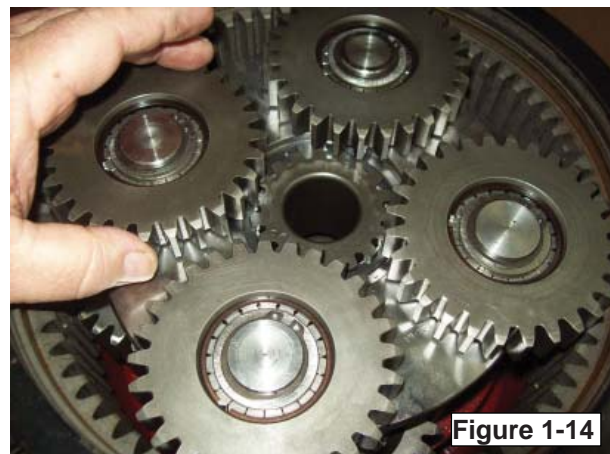

Figure 1-14
21. Place outer gear set into the hub (FIGURE 1-14).